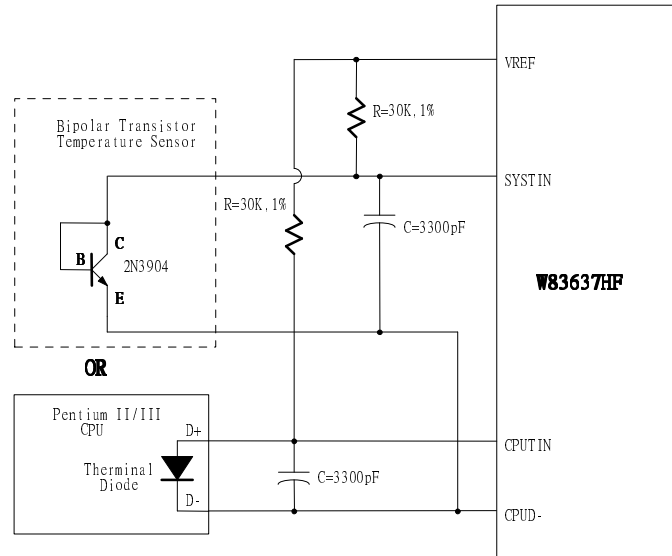

Figure 6.3
The W83637HF can alternate the thermistor to Pentium II™/Pentium III™ thermal diode interface or transistor 2N3904 and the circuit connection is shown as Figure 6.3. The pin of Pentium II™/Pentium III™ D- is connected to pin 111(CPUD-) and the pin D+ is connected to temperature sensor pin in the W83637HF. The resistor R=30K ohms should be connected to VREF to supply the diode bias current and the bypass capacitor C=3300pF should be added to filter the high frequency noise. The transistor 2N3904 should be connected to a form with a diode, that is, the Base (B) and Collector (C) in the 2N3904 should be tied together to act as a thermal diode.